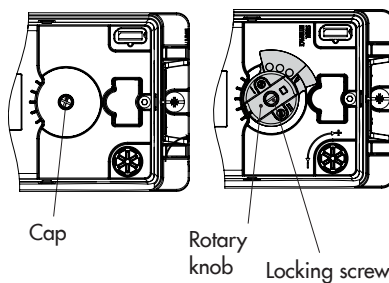

Fig. 5-5: Shaft locking
Use the Phillips screw head on the cap to lock the positioner shaft in place (see Fig. 5-5 left).
- ➔ Do not use the locking screw to turn the positioner shaft knob. Only turn the rotary knob by hand (see Fig. 5-5, right).
5. Check the pin position of the follower pin (2) on M lever (1). Refer to travel tables for type of attachment. If necessary, change the pin position (see Chapter 5.4).
6. Insert molded seal (15) into the groove of the positioner housing and insert the seal (10.1) on the back of the housing.
7. Place positioner on the cover plate (10) in such a manner that the follower pin (2) rests on the top of the follower clamp (3). Adjust the lever (1) correspondingly and open the positioner cover to hold the positioner shaft in position at the shaft lock (Fig. 5-5). The lever (1) must rest on the follower clamp with spring force. Fasten the positioner on the cover plate (10) using the two fastening screws.
8. Mount cover (11) on the other side. Make sure that the vent plug is located at the bottom when the control valve is installed to allow any condensed water that collects to drain off.
4. Check the pin position of the follower pin (2) on M lever (1). Refer to travel tables for type of attachment. If necessary, change the pin position (see Chapter 5.4).
5. Insert molded seal (15) into the groove of the positioner housing.
6. Place positioner on the cover plate in such a manner that the follower pin (2) rests on the top of the follower clamp (3). Adjust the lever (1) correspondingly and open the positioner cover to hold the positioner shaft in position at the shaft lock (Fig. 5-5). The lever (1) must rest on the follower clamp with spring force.